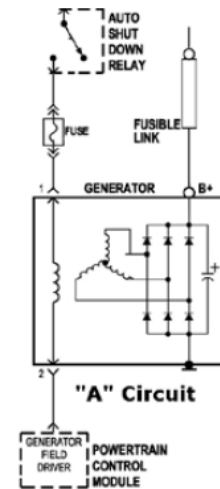

Figure 3
- A circuit: Power is applied to one field terminal either from the automatic shutdown relay or directly from the PCM (Pin 1 of Figure 3). On the second field terminal, ground to the rotor is varied by the PCM with a duty cycle to maintain the desired setpoint (Pin 2 of Figure 3).
### Dual Field "A" circuit (Figure 3)
Back probe both field terminals at the alternator. With the engine running at 1500 RPM, monitor the wires. One field wire should be near system voltage (within .5 volts) at all times (Pin 1 of Figure 3). If it is any other value, repair the voltage supply circuit. The other field wire will vary based on battery state of charge and load (Pin 2 of Figure 3). Monitor the field control circuit while adding and removing loads. The voltage should rise with increasing loads. If the voltage remains high and does not fluctuate with changing loads, the field wire is shorted to power, open or the PCM circuitry is failed. If the voltage remains low, verify alternator operation and/or repair the field circuit for short to ground.
- Key On Engine Running (KOER) should be near system voltage (If not, circuit open, short to ground, faulty ignition switch) Fig. 3